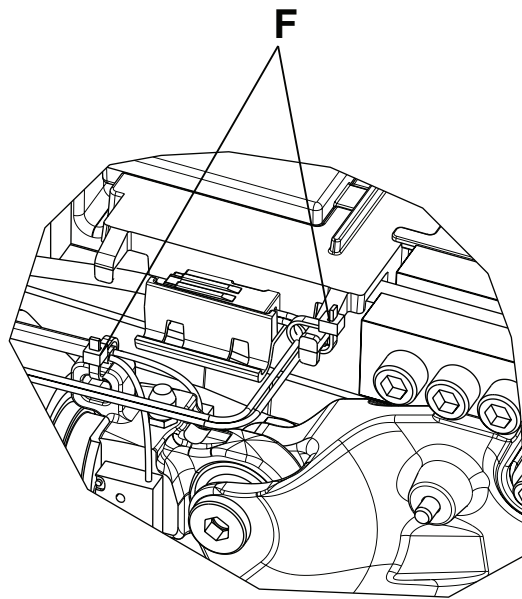

Figure 16 – Cable ties location
9. Using diagonal pliers, cut the cable ties (F) that secure the hydraulic cylinder rod end assembly cable to the plastic cover (Figure 16).